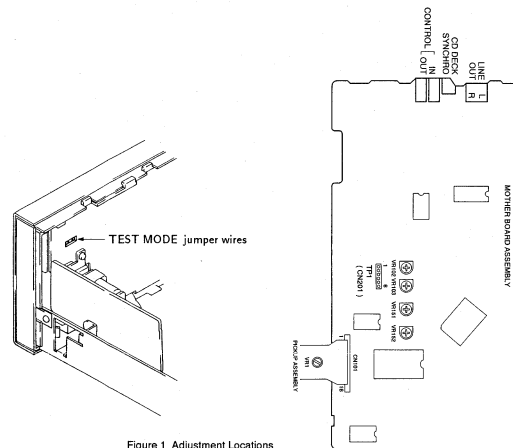

Figure 1 Adjustment Locations
2. Short the test mode jumper wires. (See Figure 1.)